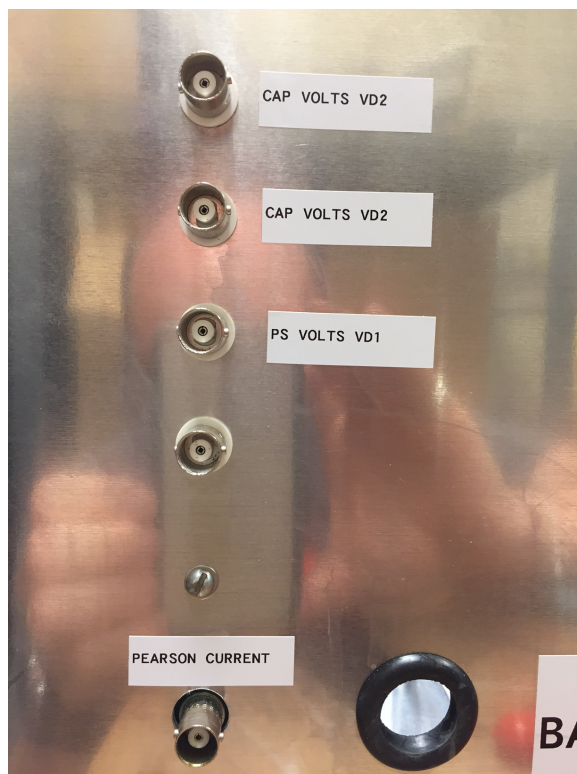

Figure 5: Connectors - Back
6.1.14 Use multimeter to measure the DC voltage on BNC connector "CAP VOLTS VD2" (see Figure 5).